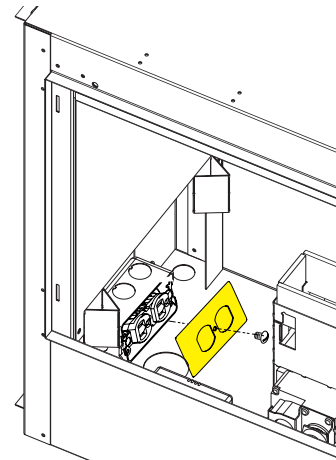

Figure 32
7. Install the Junction box cover. **See Figure 32.**